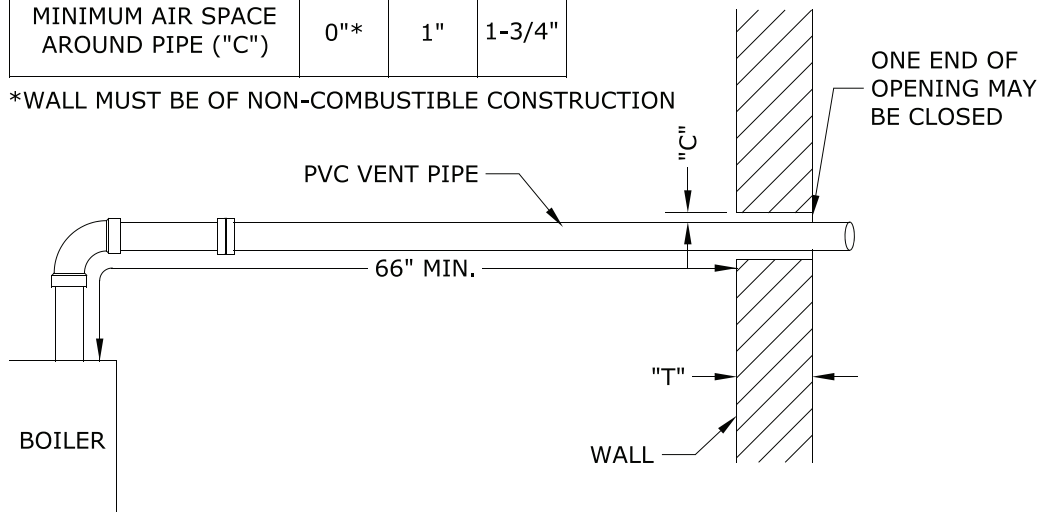

Figure 7.4: Wall Penetration Clearances for PVC Vent Pipe
- c. An airspace of at least that shown in Figure 7.4 is maintained around the OD of the vent.